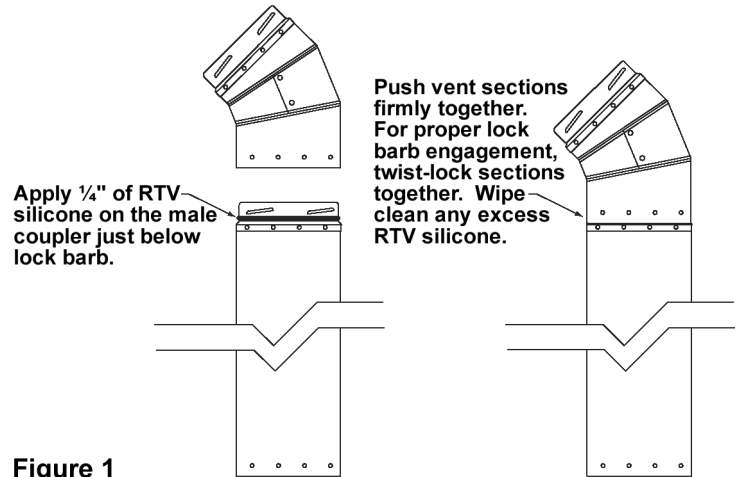

Figure 1
12. To ensure a good gas tight seal for positive-pressure venting, we recommend the application of an RTV high-temperature silicone to the male collar of the joint. See Figure 1.
- 1.10 Install the next vent section(s) above the first. We recommend to apply 1/4" bead of RTV, as per Figure 1. Twist-lock sections together with a clockwise turn. Before twisting, push vent sections firmly together for proper lock-barb engagement. Enough twisting force must be applied to ensure that the collars will compress the gasket material.